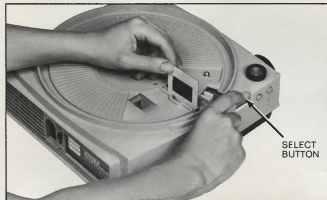

FIG. 9
If you wish to use an extra slide, for a total of 81 (or 141 in the 140 Tray), or a title slide that will be projected as soon as the projection lamp goes on, insert this slide in the projector gate (see Figure 9) before you set the tray in place. Or, if you want the screen to be dark after you have shown slide No. 80 (or No. 140 in the 140 Tray), insert a 2 x 2-inch (50 x 50 mm) piece of cardboard (no thicker than a slide) in the gate before you position a tray on the projector. This additional slide or piece of cardboard will enter the blocked-off space in the tray at the zero position when the first regular slide is projected; it will return to the gate when the slide tray is positioned at zero.
3. Without a slide tray: A single slide can be shown simply by inserting it, correctly oriented, into the projector gate as shown in Figure 9. To remove the slide, depress the select button.